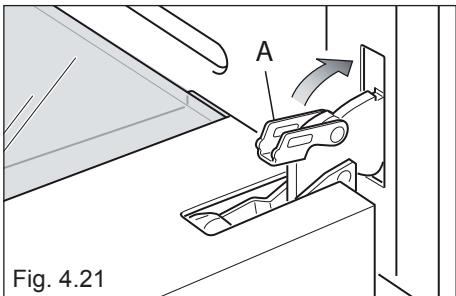

Fig. 4.21
- Unlock the oven door by opening it completely and closing the lever "A" on the left and right hinges (fig. 4.21).